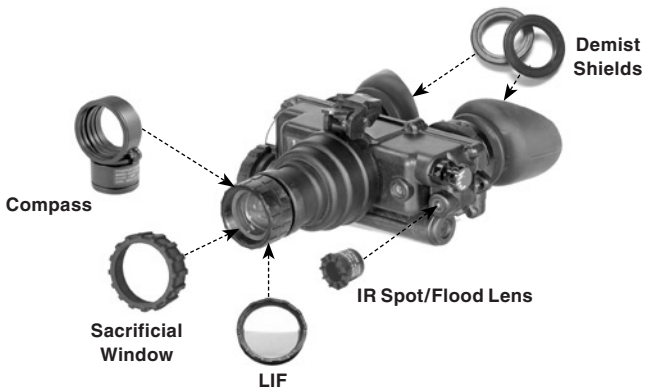

Figure 2-3. Installation of Demist Shields, Sacrificial Window
D. Installation of the Demist Shields. Perform the following procedure to install the demist shields on the diopter lenses. Refer to Figure 2-3.
E. Installation of the sacrificial Window. Perform the following procedure to install the sacrificial window. Refer to Figure 2-3.
4. Press the compass assembly onto the objective lens at an angle using your left hand. Slowly turn the compass assembly counter-clockwise until it is in the vertical position (with compass illumination button pointing down). See Figure 2-3.